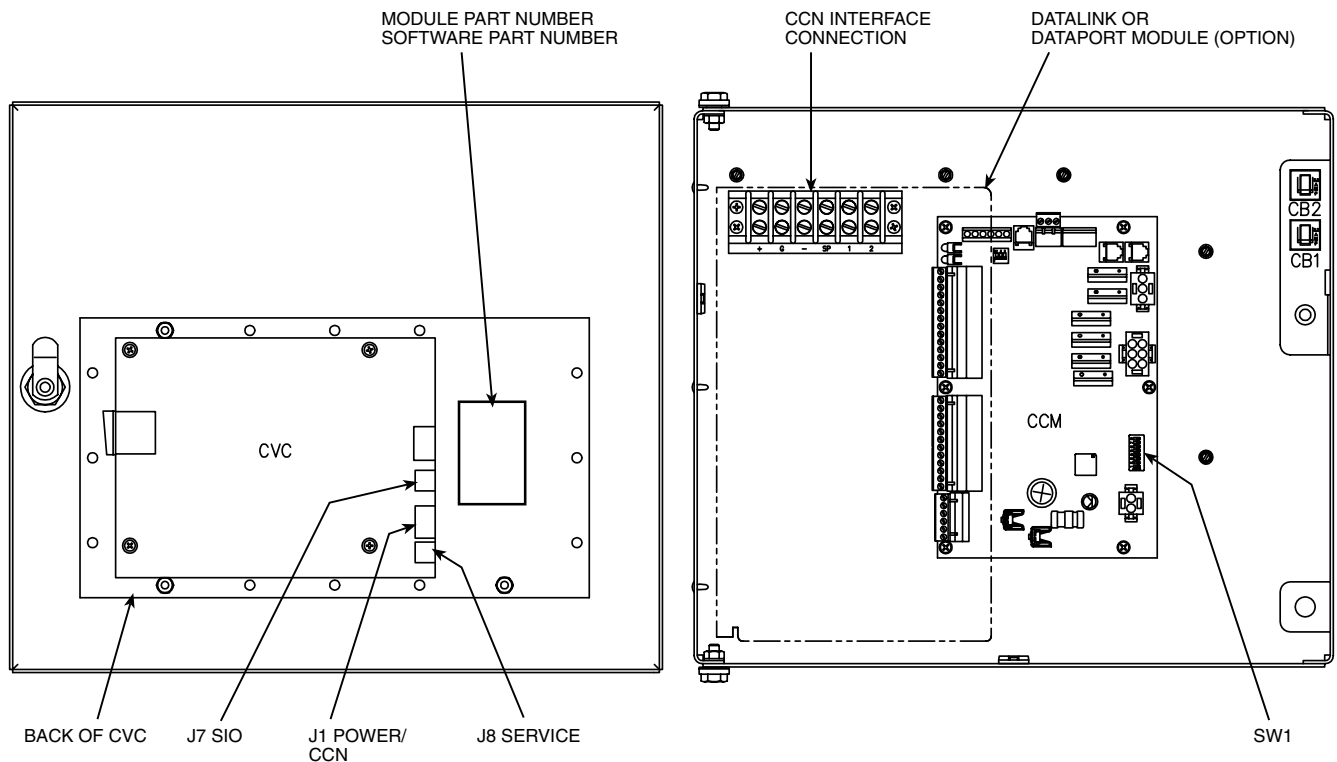

Fig. 40 — Rear of CVC (Chiller Visual Controller)
2. If a green LED is on continuously, check the communication wiring. If a green LED is off, check the red LED operation. If the red LED is normal, check the module address switches (SW1) (Fig. 40 and 41). Confirm all switches are in OFF position.